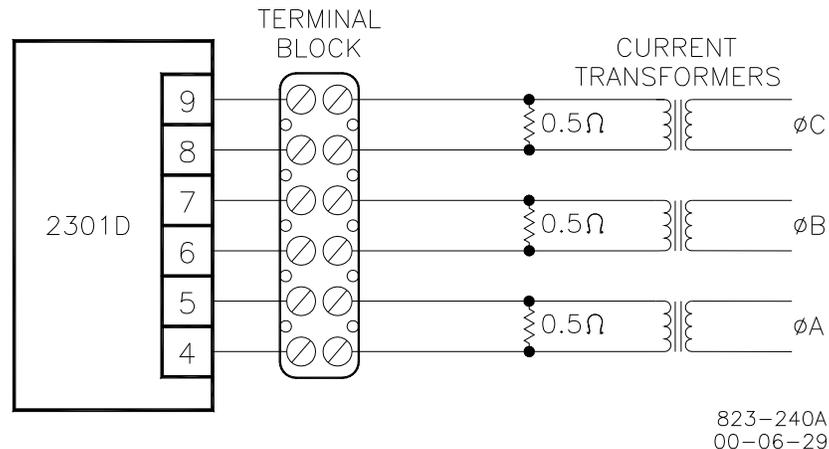

Figure 3-8. Temporary Wiring for Transformer Phase Correction
The Phase Correction Procedure requires that the prime mover be shut down many times to disconnect the current transformers. For convenience, a temporary method of connecting the current transformers shown in Figure 3-8 is recommended. Connecting a 0.5  $\Omega$ , 20 W burden resistor across each current transformer allows the current transformers to be disconnected from the terminal strip with the prime mover running, after removing all load.
**HIGH VOLTAGE—The current transformers can develop dangerously high voltages. Do not disconnect a current transformer while the prime mover is running unless temporary 0.5  $\Omega$ , 20 W resistors are installed as shown in Figure 3-8, and all load is removed.**
If the temporary burden resistors described above and shown in Figure 3-8 are not used, the prime mover **MUST** be shut down in addition to removing the load in the following procedure.